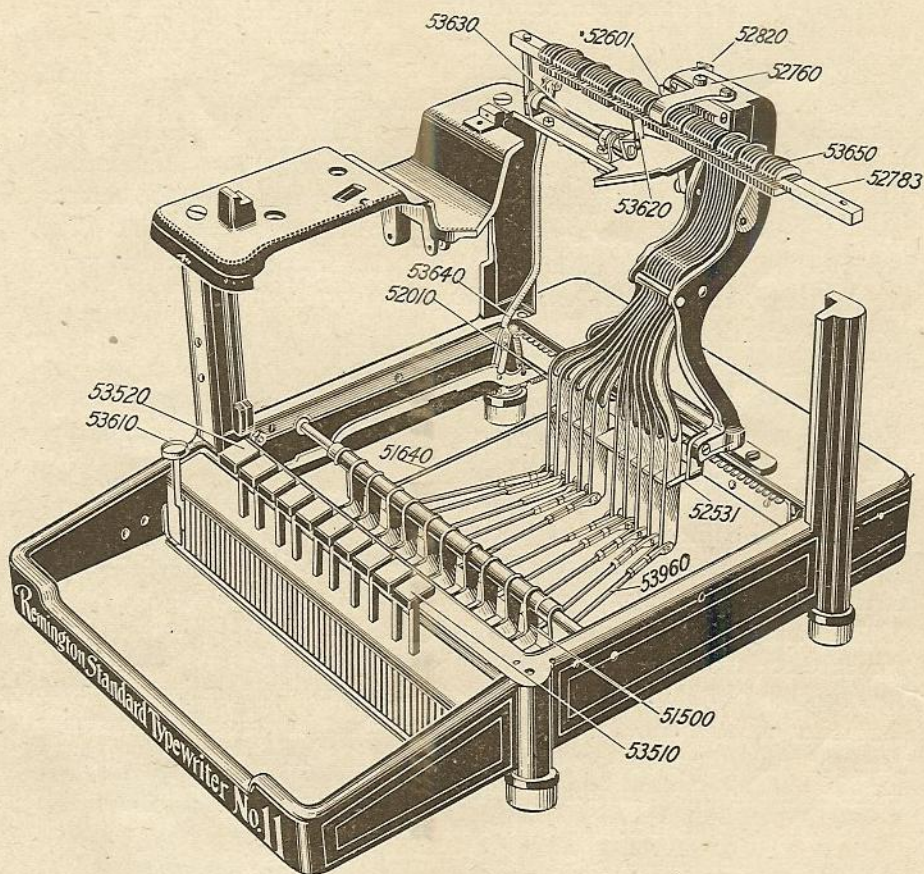

FIGURE 6
selector in that it does more than merely bring the carriage to a single writing point in each column. It will bring the carriage instantly to the *exact writing point* in each column where the writing is to begin, whether this be the units column, tens column, hundreds column or any other. The ten tabulator keys (53510—53520, Fig. 6), which are located immediately back of the character keys on the keyboard, afford no less than 10 different starting points for every column.
The decimal tabulator is composed of two general parts; the tabulator rack (52783, Fig. 6) on which stops (53650, Fig. 6) for each column of figures to be written are placed, and the actuating mechanism, composed of a series of ten finger keys (53510—53520, Fig. 6) and their connecting levers and plungers (51500, 53960, 52010, Fig. 6). The device is valuable for every form of tabular or figure work, and its operation is simplicity itself.
The most common use of the tabulator in the United States is for the writing of columns of dollars and cents in connection with simple columnar headings on the same form, and for this work either the so-called standard scale (No. 1) or the common scale (No. 2) (see page 27) is generally used. To set the tabulator for writing columns of dollars and cents, place the paper in the machine, squaring the sheet by means of the end guides (see Section 32) and placing it flush with the side guide (33921, Fig. 1), and, releasing the carriage by means of either of the levers (28051, 28052, Fig. 1) provided for the purpose, move it along until the place for writing the decimal point (separating dollars and cents) falls exactly in the center of the cut-out in the middle of the line gauge (26931, Fig. 1) three line-spaces underneath the triangular opening at the top of the line gauge. Then strike the key (53610, Fig. 6) marked "Tab. Stop Set" which by means of its connecting wire (53640, Fig. 6) and shaft (53630, Fig. 6) and arm (53620, Fig. 6) forces one of the stops (53650, Fig. 6) into the proper position on the rack (52783, Fig. 6). If more than one column of figures is to be tabulated, the same procedure for each column should be followed, using one stop for each column. The machine is now set for the work in hand, and the stops on the rack need never be changed so long as the same form is used.
When it is desired to provide for writing another form with a different columnar arrangement, all stops (53650, Fig. 6) should be restored to the forward position on the rack.
To change stops from the backward to forward position, release carriage by either of the levers (28051 or 28052, Fig. 1) and bring to extreme right or left. Now press finger piece (52820, Fig. 6) which will drive out the cam (52601, Fig. 6), continue to hold in finger piece and draw carriage to right or left, as required, for entire length of line. All is now ready to set up for a new form.
After the stops have been set for writing, the operator will note that the second tabulator key from the left of the machine is indicated on the scale as "1" or the "units" key. By depressing this key the connecting mechanism is thrown into action and the pinion wheel disengages the rack (20512, Fig. 3) from the pinion wheel on the escapement wheel shaft, permitting the carriage to escape until it is stopped by the tabulator stop (53650, Fig. 6) coming in contact with the upper end of the plunger lever (52010, Fig. 6) at one point to the left of the decimal point. The same applies to every tabulator key, each one having indicated above it on the tabulator scale the exact point in the column to which it will move the carriage.